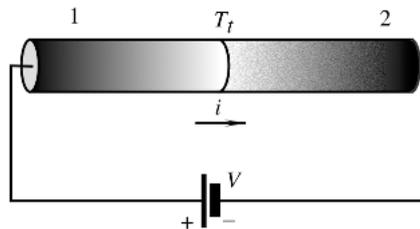

Figure 8: Peltier effect in single junction.
- (5p) (f) Figure 8 shows a single junction of two different materials. Explain (in maximally 200 words) why the Peltier effect results in the production or liberation of energy at a junction when a current is passed through this junction.